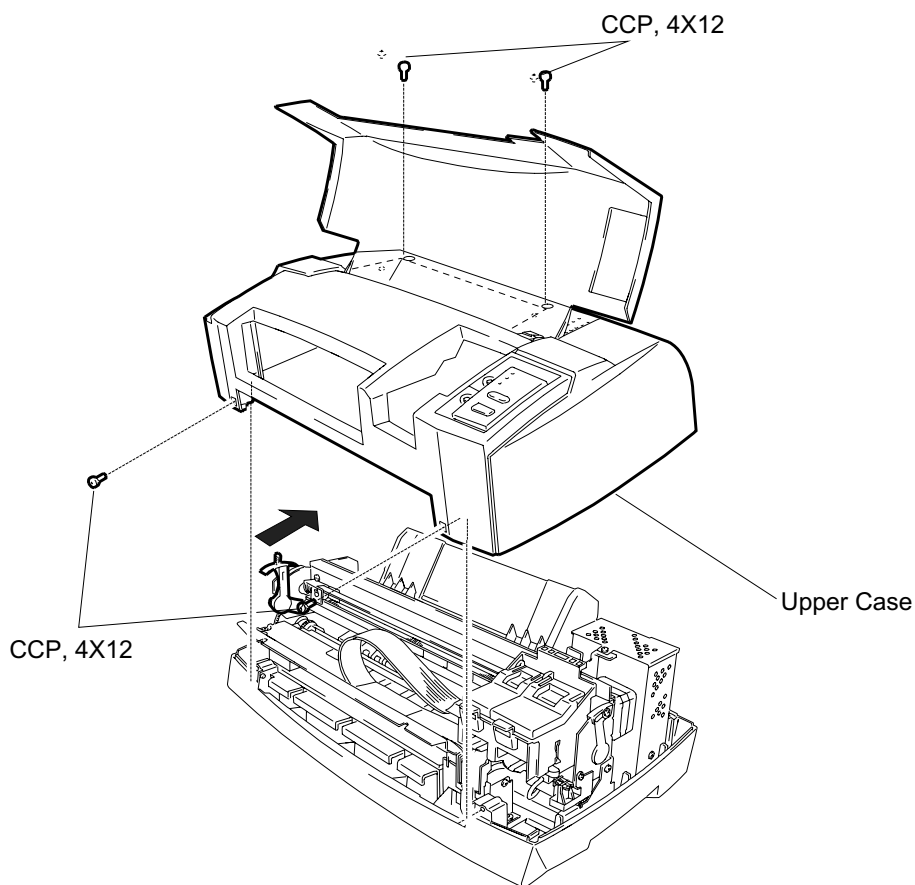

Figure 3-6. Upper Housing Removal
4. Remove 4 screws (CCP, 4x12, F/Zn): 2 screws securing the upper housing to the front and 2 screws securing the upper housing to the top rear side of the printer. (Refer to Figure 3-6.)